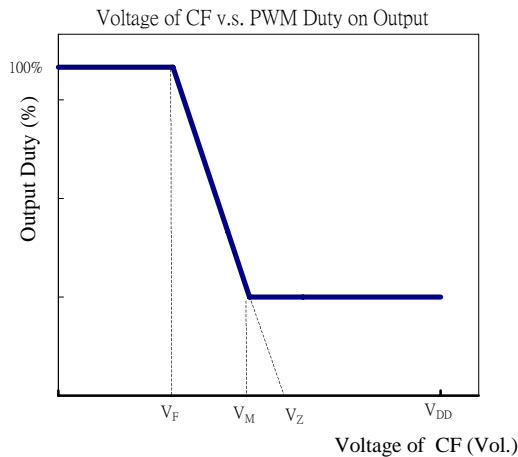

Figure 3. The relations of the voltage of VZ, VM, VF and PWM duty ratio on output terminal.
- The voltage setting of VZ, VM and VF determine DM, DH and RM. The input voltage of CF pin will determine the fan speed by controlling the duty of output terminals. The setting and relation of control voltage are shown in Figure 3.